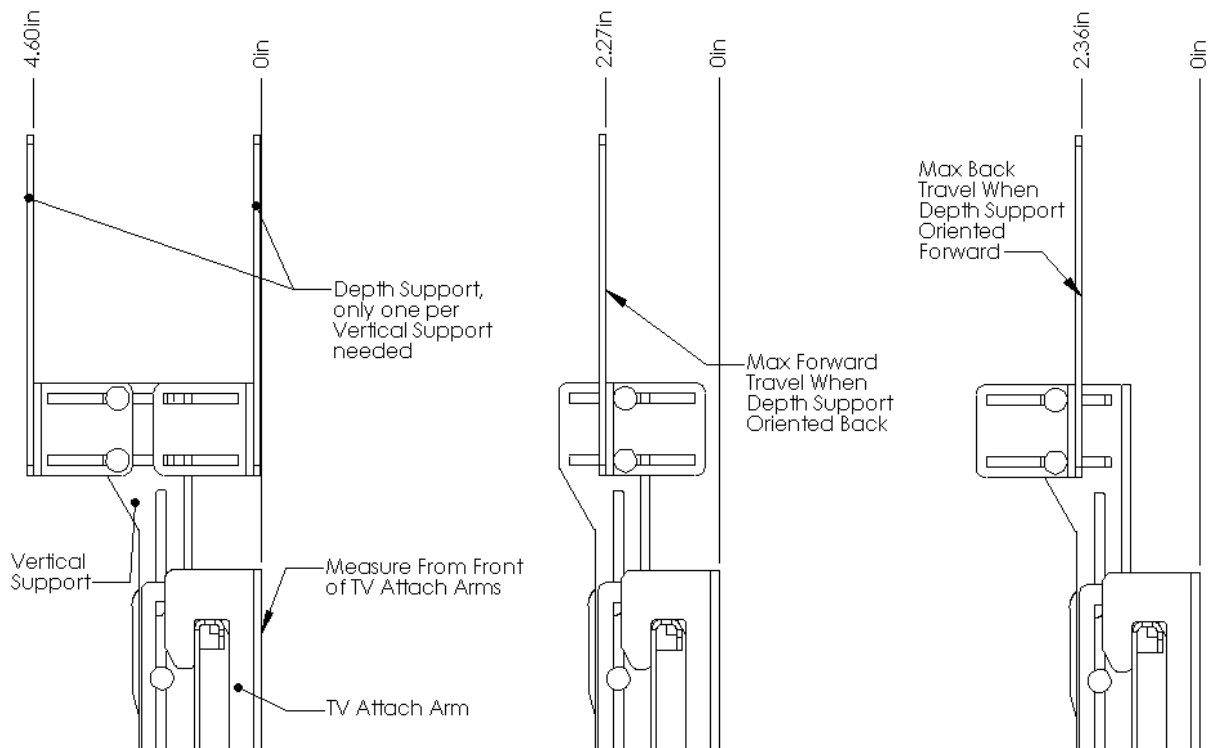

Figure 1 Depth Adjustment
4. The Depth Support can be adjusted by loosening the #10 Locknuts with a 3/8in wrench. They can also be swapped around to get more adjustment, see Figure 1 for more details.